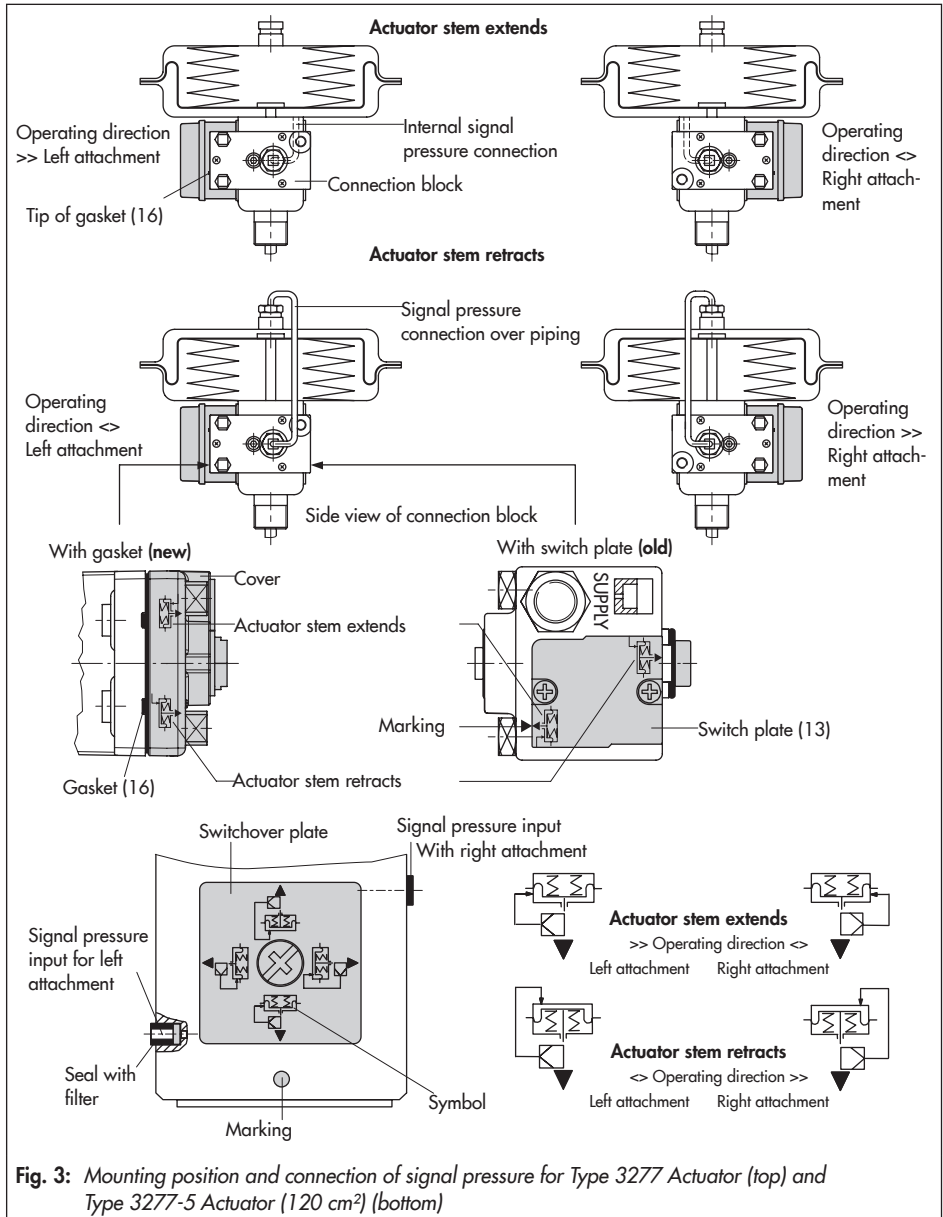

Fig. 3: Mounting position and connection of signal pressure for Type 3277 Actuator (top) and Type 3277-5 Actuator (120 cm²) (bottom)
The operating direction of the positioner also determines its mounting position on the actuator as illustrated in Figs. 3, 4 and 6.
7. Make sure that the tip of the gasket (16) projecting from the side of the connection block (Fig. 3, middle) is positioned to match the actuator symbol for the actuator's fail-safe action "actuator stem extends" or "actuator stem retracts".
The signal pressure is transmitted to the diaphragm chamber over the switchover plate (Figs. 3 and 4, bottom).